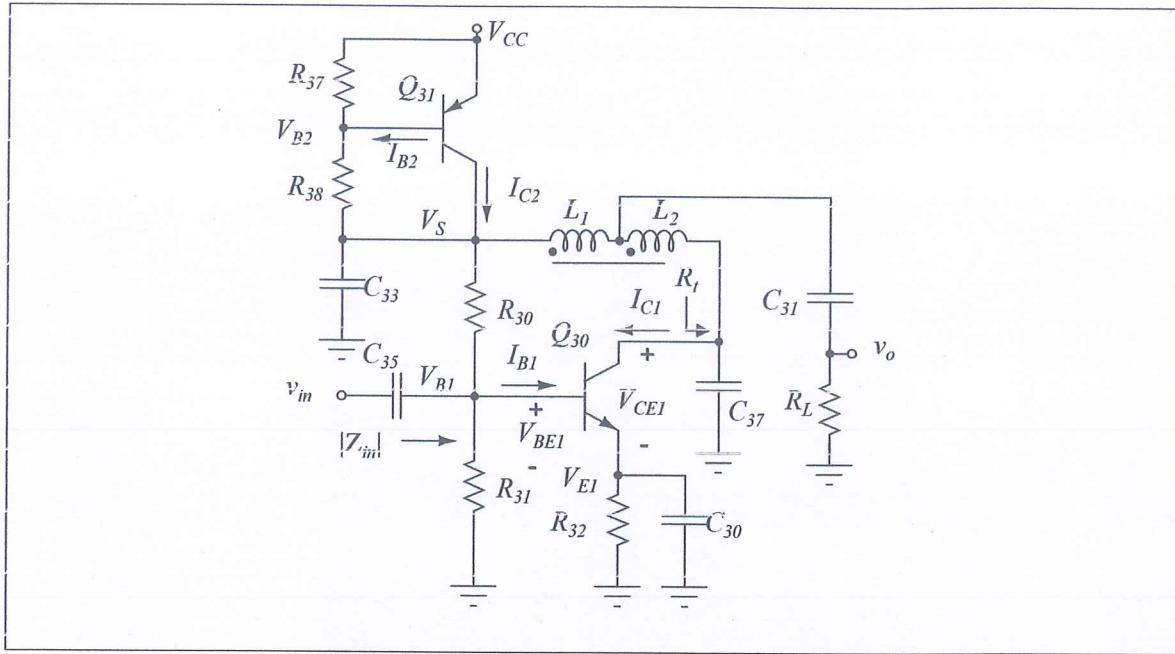

Figure 1: Schematic of transmitter amplifier.
1. A tuned RF amplifier that acts as the transmitter amplifier of TRC-11 can be built using a BJT, Q30. BJT to be used is a more powerful NPN transistor, 2N2222. Inspect the datasheet given in 347. It can handle currents up to 600 mA and voltages up to 40 V. It can dissipate up to 625 mW power at room temperature. These values are considerably high compared to KSP10 used earlier. Refer to the circuit given in Fig. 1. It is a Class-A power amplifier intended to drive an antenna. R_L is the load to be driven (it is actually the real part of the antenna impedance to be discovered later). The power delivered to R_L is the transmitted RF power into the air when the antenna is used. Actually, the output power is intentionally kept low, not the violate local RF transmission limits in this frequency band. C_{31} is a DC block capacitor. L_1 , L_2 and C_{37} form a impedance transformation network, that transforms R_L into an optimal impedance for the transistor.